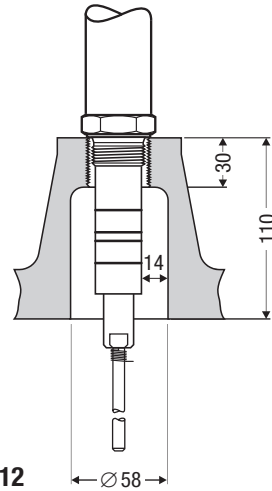

Fig. 12
- If the level electrode **NRG 111-51** is to be installed in a flanged standpipe DN 50 use only the GESTRA hat flange! **Fig. 12**
- When using the level electrode **NRG 111-51** take the pH limit value (10) and the max. admissible electrical conductivity (100 µS/cm at 25 °C) into consideration.